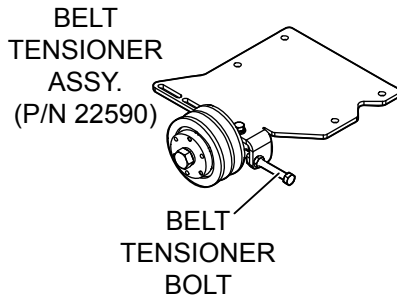

Figure 9. Belt Tensioner Bolt Removal
- Temporarily remove tensioner bolt from belt tensioner assembly (P/N 22590). See Figure 9.